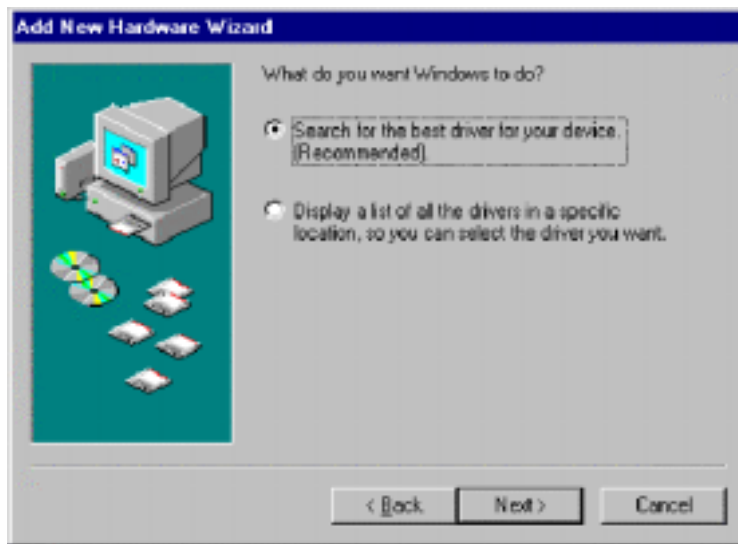

Figure B-3
3. Click on Next to go to the next window, as shown in Figure B-3.